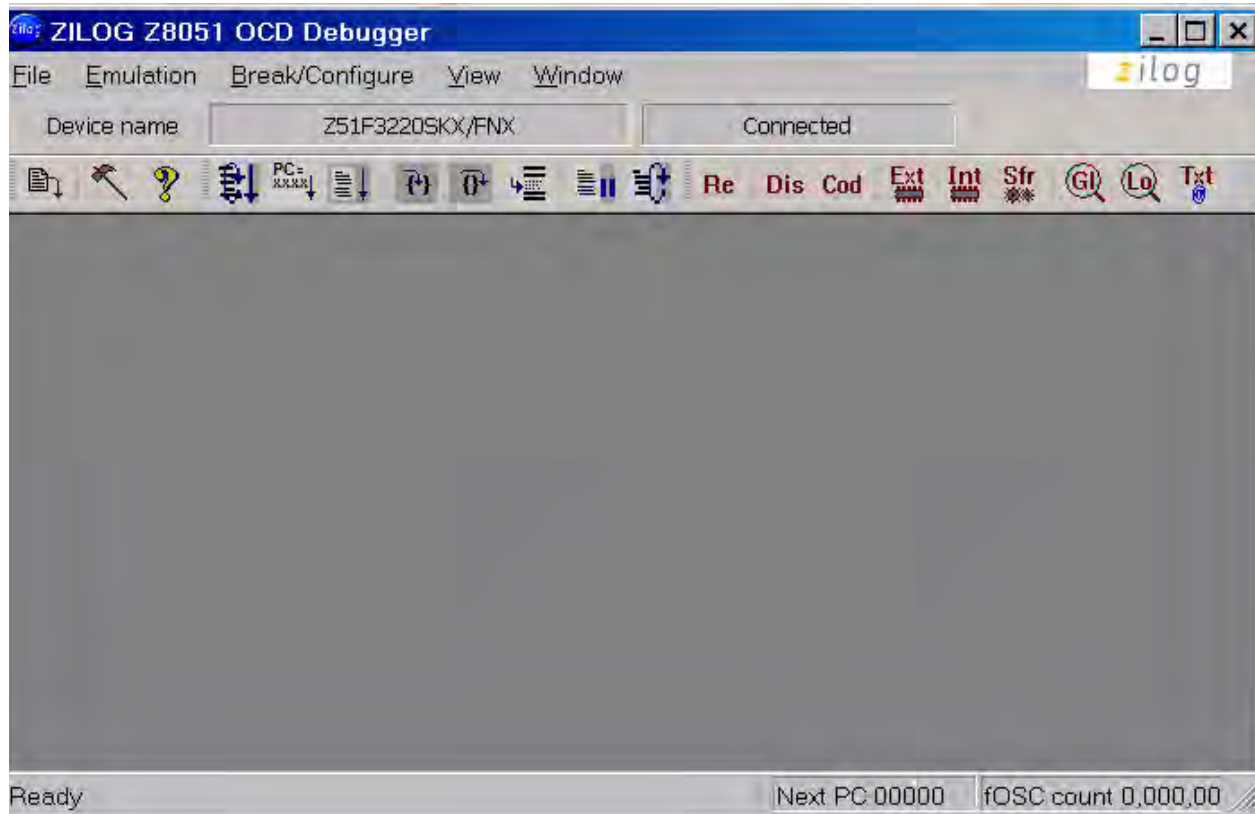

Figure 16. Initial OCD Screen
4. Run the Z8051 OCD software. From the **Start** menu, navigate to **All Programs** → **Zilog Z8051 Software and Documentation <version_number>** → **Zilog Z8051 OCD <version_number>**. Once launched, the program will display *Connected*, as shown in Figure 16.